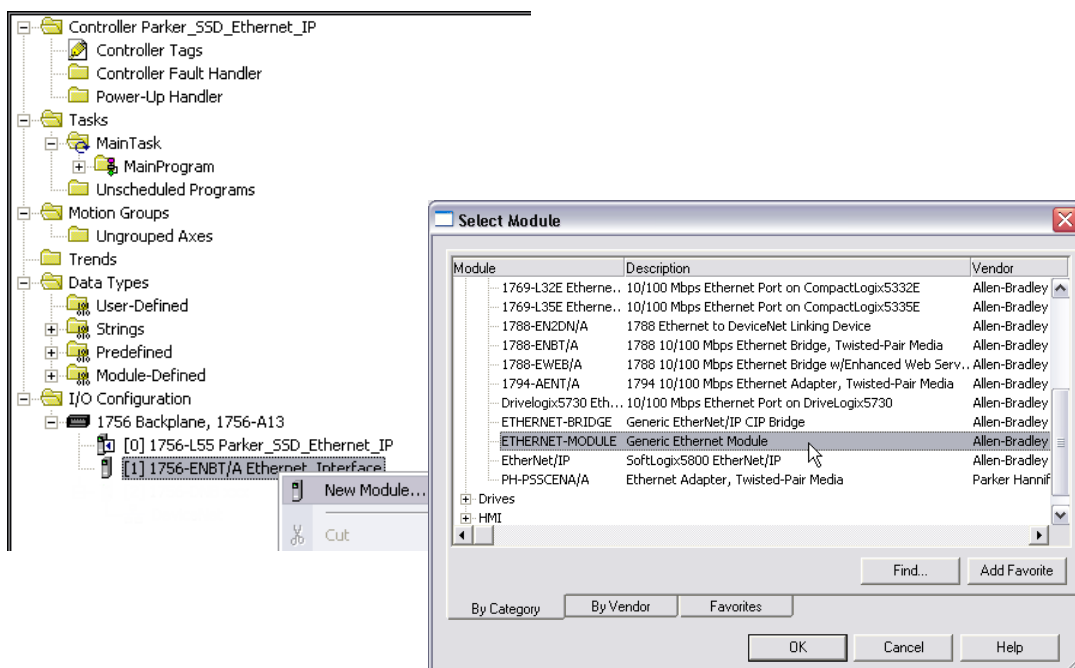

Figure 22. Generic Ethernet Module Select
- Right click on the Ethernet Interface Module, select New Module. This screen will allow the selection of the Generic Ethernet Module. Refer to Figure 22.